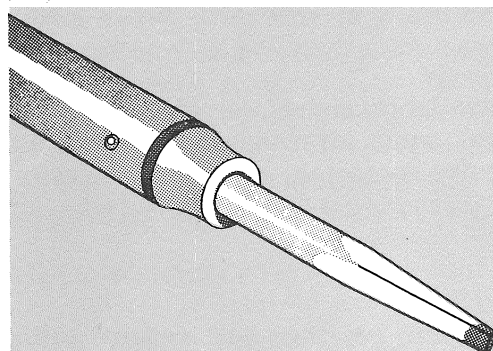

Fig. 4-1. Soldering iron tip correctly shaped and tinned
Because of the shape of the terminals on the ceramic strips it is advisable to use a wedge-shaped tip on your soldering iron when you are installing or removing parts from the strips. Fig. 4-1 will show you the correct shape for the tip of the soldering iron. Be sure and file smooth all surfaces of the iron which will be tinned. This prevents solder from building up on rough spots where it will quickly oxidize.
2. Prepare the tip of the iron as shown in Fig. 4-1.